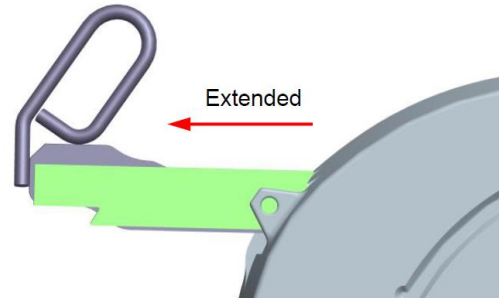

FIGURE 17
- The release handle is extended (see figure 17).